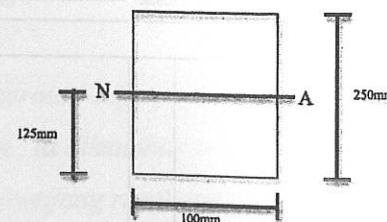

Figure B2(b) / Rajah B2(b)
- c) A T-section beam as shown in Figure B2(c) is subjected to a shear force of 50kN. The second moment of area about the neutral axis is $314.221 \times 10^4 \text{ mm}^4$.